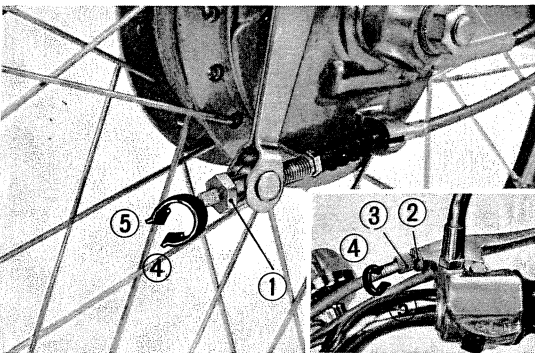

Fig. 20 ① Adjuster nut ② Lock nut ③ Adjuster nut ④ Decrease ⑤ Increase Fig. 20-A
1) Turn the adjuster nut clockwise to reduce play in the brake lever. (Fig. 20)
2) Minor or fine adjustment can be made with adjuster nut on the clutch lever. (Fig. 20-A)